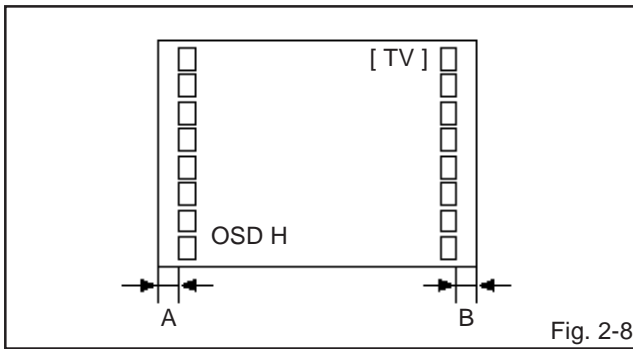

Fig. 2-8
4. Press the VOL. UP/DOWN button on the remote control until the difference of A and B becomes minimum. **(Refer to Fig. 2-8)**